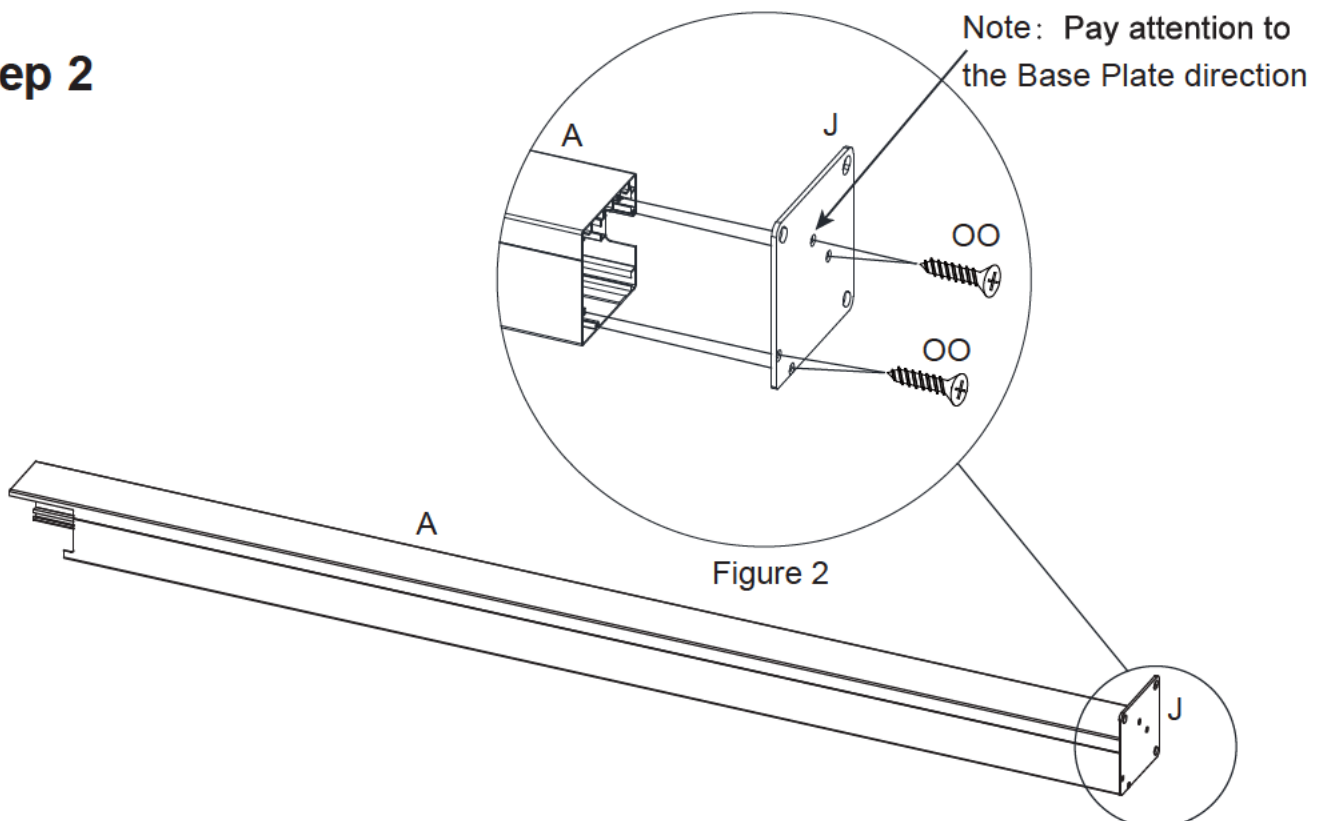

Figure 2
2. Connect the Base Plate (J) and Post (A) together and secure with Bolts (OO). See Figure 2.